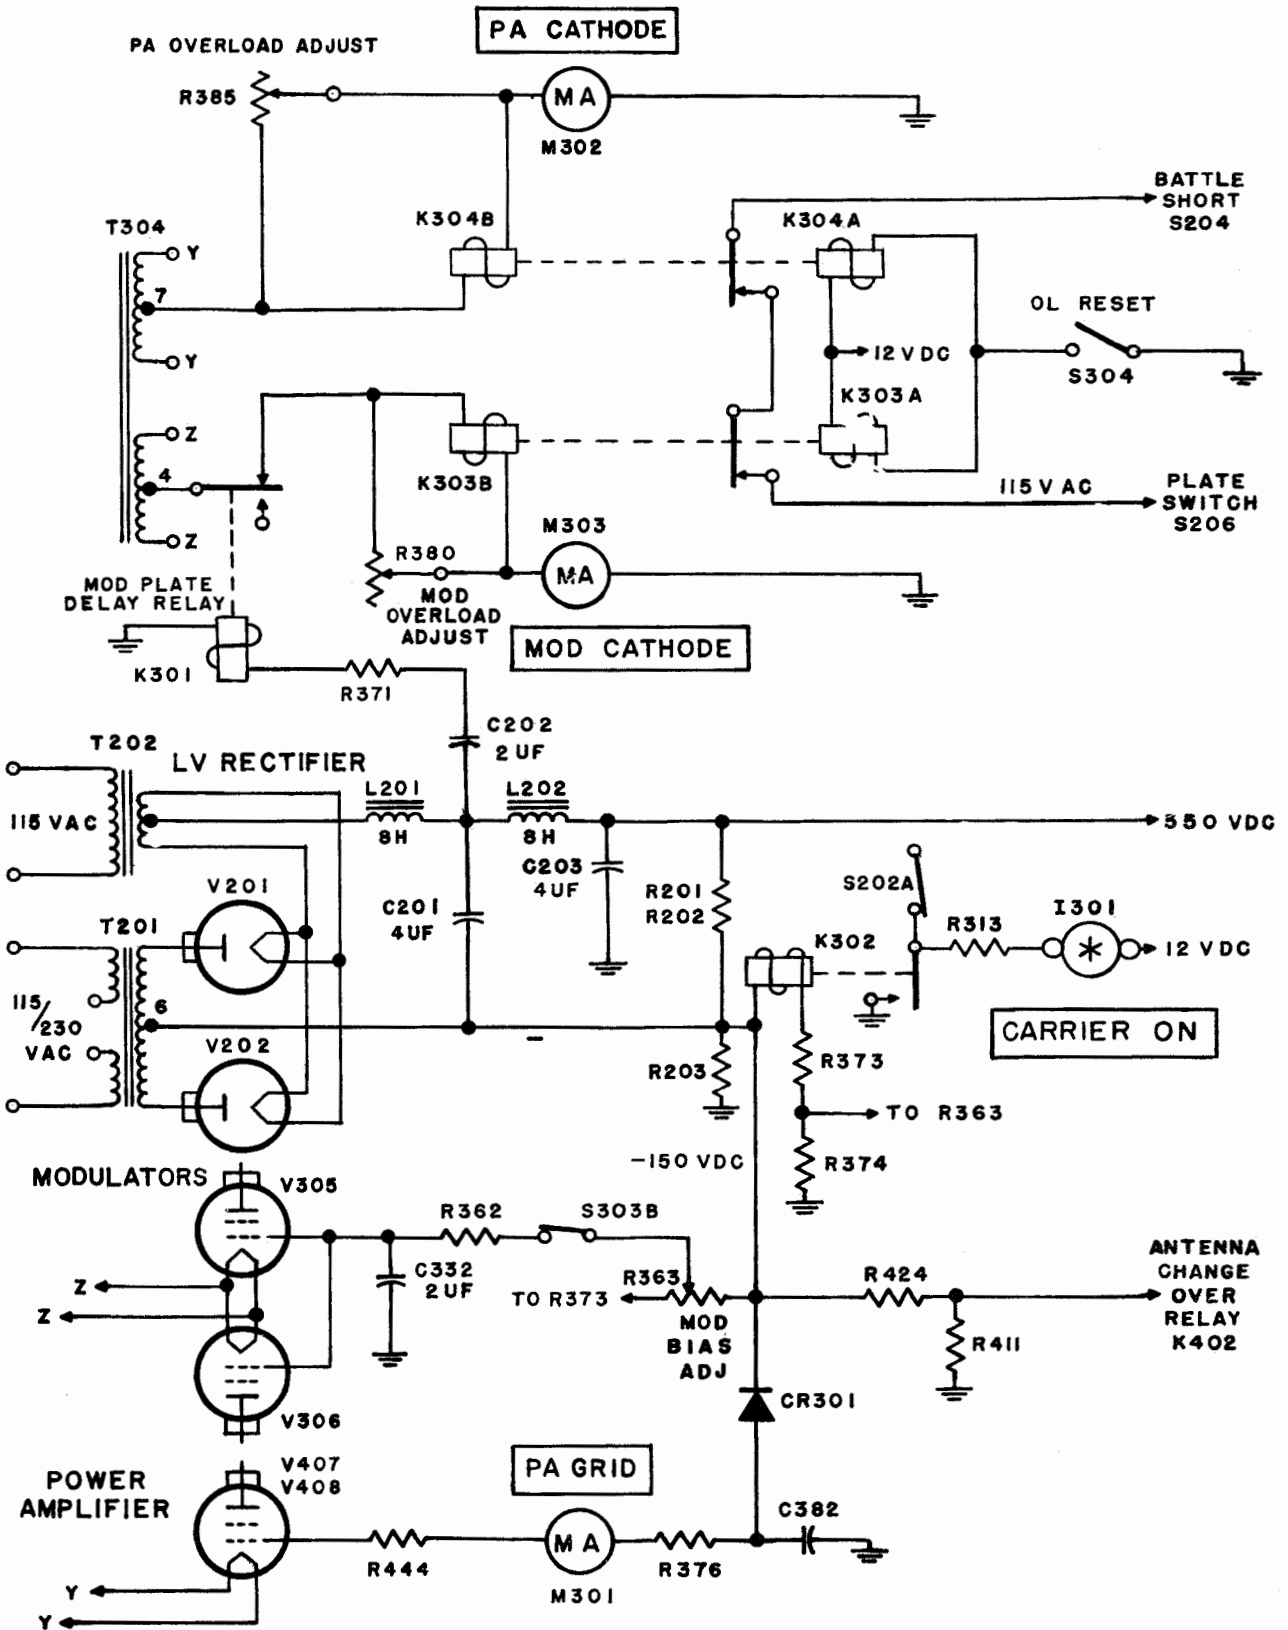

Figure 2-5. Bias Supply Circuit
h. BIAS VOLTAGE. - (Refer to figure 2-5.) The dc bias voltage of minus 150 volts is established from the negative side of the LV filter circuit to ground. When the transmitter is keyed, the keying indicator relay, K302, is energized. Contact "C" of K302 completes the CARRIER ON indicator circuit, which gives a visual indication that carrier is present. At the same time, the bias voltage is developed between a combination of resistors: R373, R374, R363 and R379 in parallel with R203; to provide a constant bias supply of minus 150 volts. The ground return for this voltage is through the cathodes of the various low level stages. When the transmitter is not keyed, the bias voltage is developed across R377 and R378 to ground through contact "C" of K302. In this manner, a constant bias supplied to both modulator tubes and power amplifier tubes is assured in either "key up" or "key down" condition. The amount of bias voltage supplied to the modulators is controlled through MOD. BIAS ADJ., and additionally filtered by an RC circuit consisting of R424, C427 then R363 and C332. The power amplifiers receive bias voltage directly from selenium rectifier CR301, which smooths out the ripple to provide more steady dc voltage to the grids of V407 and V408.